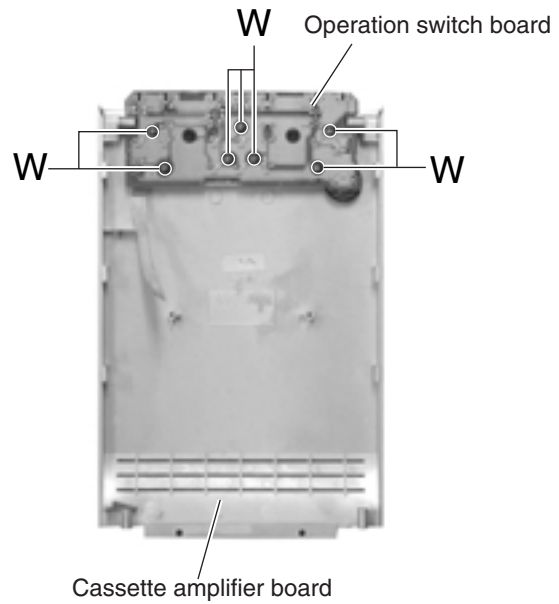

Fig.37
■ Removing the operation switch board (See Fig.37)